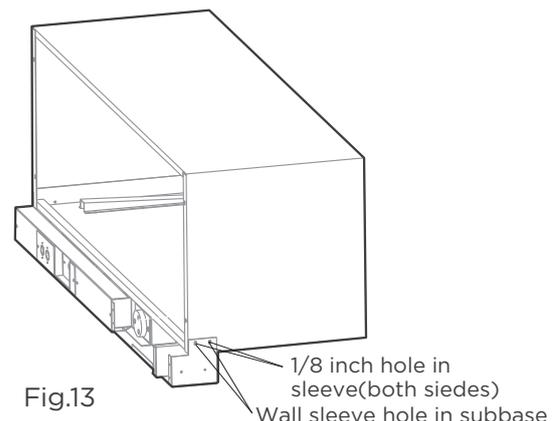

Fig.13
- Drill four 1/8-inch holes in the sleeve to line up with the wall sleeve holes in subbase as shown below. (See Fig.13)